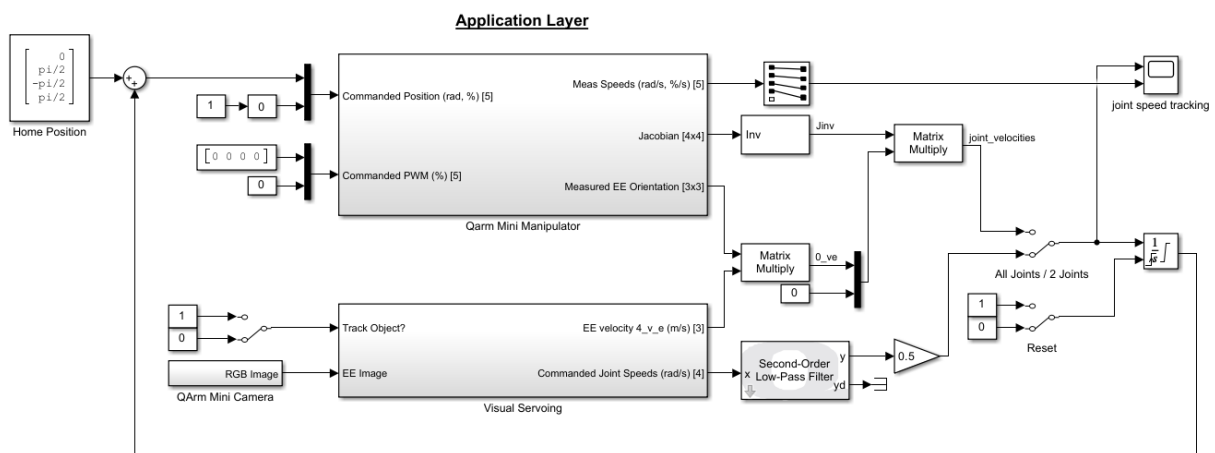

Figure 2. Application Layer
4. Go back to the root level of your model (**Application Layer**). Ensure the switches in the model matches the positions in Figure 2